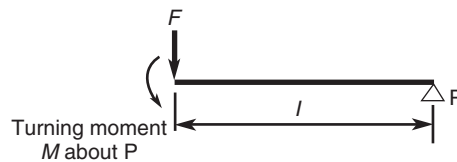

Fig. 37
3. Complete the following table, which refers to Figure 37: